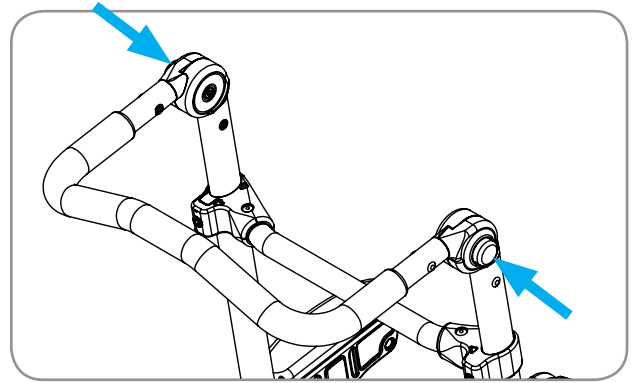

Figure 5
1. Press and hold buttons on outside of each adjustment ratchet, reference Figure 5.